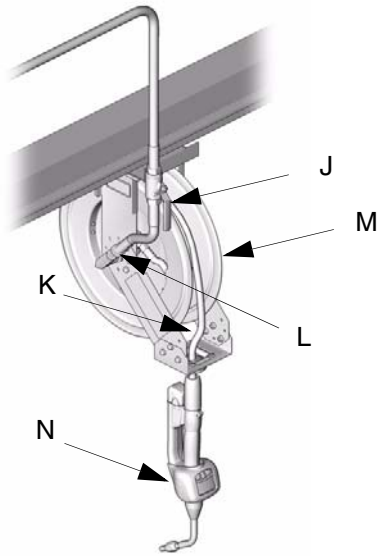

FIG. 4
KEY	DESCRIPTION, See FIG. 4.
2. Close the shut-off valve (J). See FIG. 4.